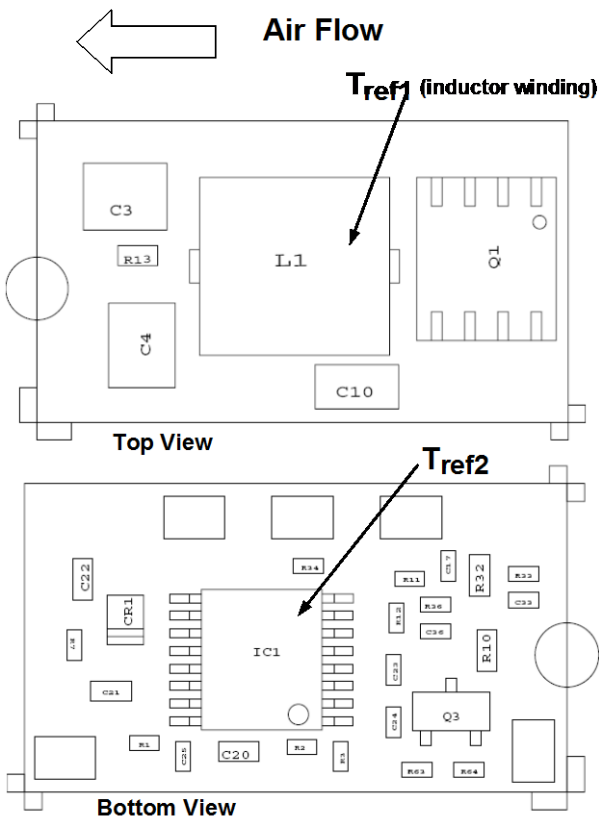
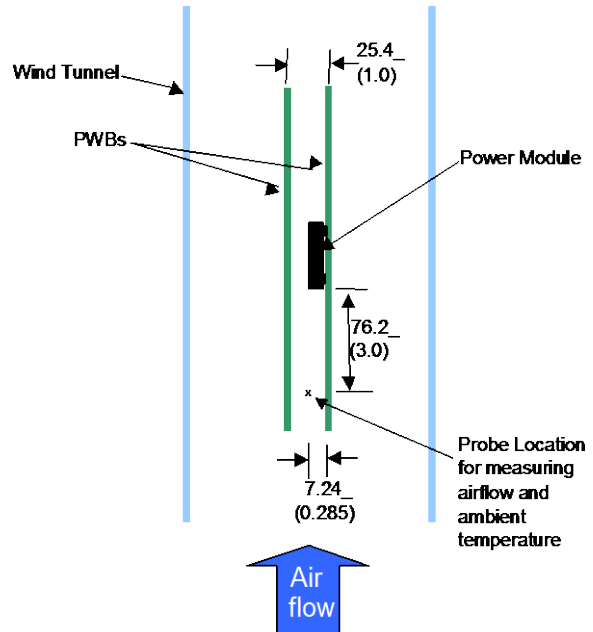

Figure 31. Tref Temperature measurement location.
Figure 32. Thermal Test Set-up.
To provide over temperature protection in a fault condition, the unit relies upon the thermal protection feature of the controller IC. The unit will shutdown if the thermal reference point T_{ref2} , (see Figure 31) exceeds 140°C (typical), but the thermal shutdown is not intended as a guarantee that the unit will survive temperatures beyond its rating. The module will automatically restarts after it cools down.
Considerations include ambient temperature, airflow, module power dissipation, and the need for increased reliability. A reduction in the operating temperature of the module will result in an increase in reliability. The thermal data presented here is based on physical measurements taken in a wind tunnel. The test set-up is shown in Figure 32. Note that the airflow is parallel to the long axis of the module as shown in figure 31. The derating data applies to airflow in either direction of the module’s long axis.
The thermal reference points, T_{ref1} and T_{ref2} used in the specifications of thermal derating curves are shown in Figure 31. For reliable operation these temperatures should not exceed 125°C.